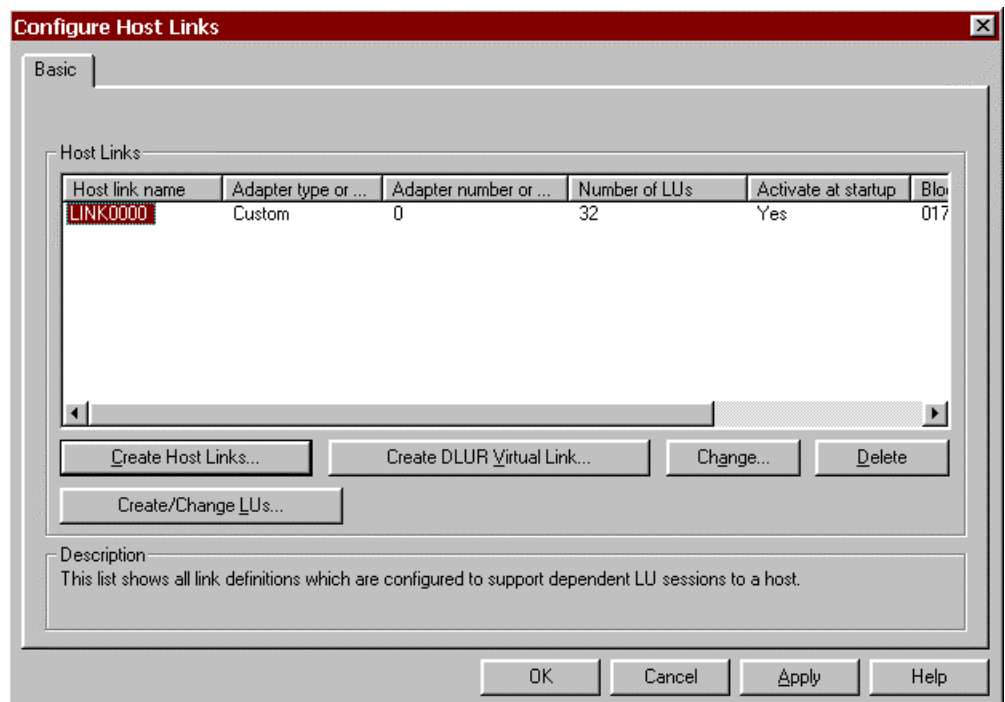

Figure 11-22. Configure Host Links with Newly Created Link0000
- Click **OK** to accept the LU definitions and complete the Host Link definition. The *Configure Host Links* screen will re-appear (Figure 11-22). The Host Link you have just defined will be displayed.